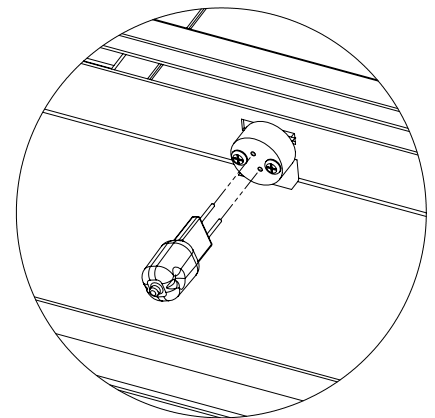

Figure 24. Halogen Bulb Replacement
6. Wear cotton gloves when replacing halogen bulbs. Grab bulb firmly at the base and pull straight out to remove; replace bulb as necessary. Grab new bulb by the styrofoam sleeve - it is vital that your bare fingers do not contact the bulb (see Figure 24). **The oils from your fingers will greatly reduce the life-span of the bulb.**